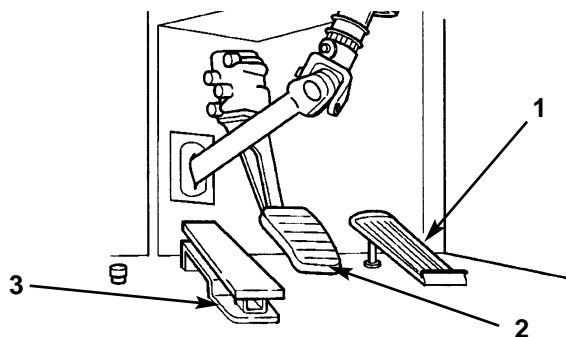
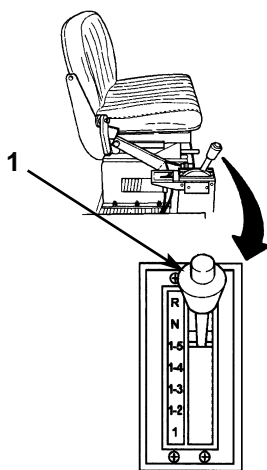
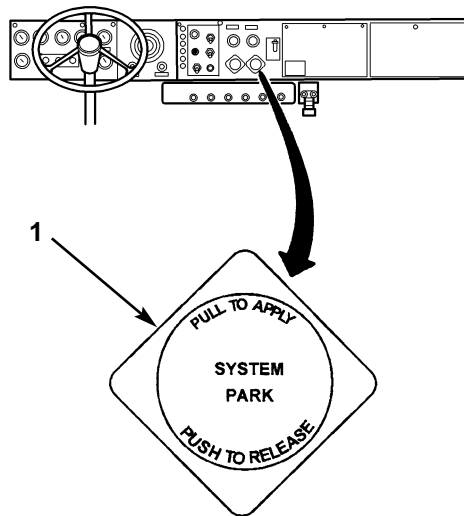

Figure 4. Accelerator and Brake Retarder.
Figure 5. Manually Downshifting Transmission.
Figure 6. Parking Brake Control.
1. Release accelerator (figure 4, item 1) and allow reduction in engine RPM and automatic downshifting of transmission to help slow tractor.
2. Depress engine retarder control pedal (figure 4, item 3) where conditions permit. Refer to TM 9-2320-283-10.
3. Manually downshift transmission by placing transmission control lever (figure 5, item 1) in a lower gear range where conditions permit. Refer to TM 9-2320-283-10.
4. Release accelerator pedal (figure 4, item 1) and press service brake pedal (figure 4, item 2) to slow tractor. Continue to firmly depress and hold service brake pedal (figure 4, item 2) to bring tractor to a complete stop.
5. If parking tractor, continue to depress and hold service brake pedal (figure 4, item 2), place transmission control lever (figure 5, item 1) in Neutral (N) position, and apply parking brake control (figure 6, item 1).